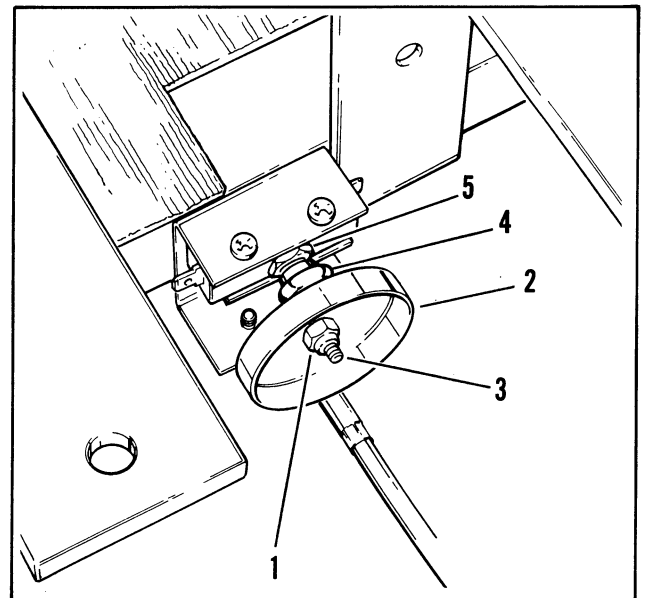
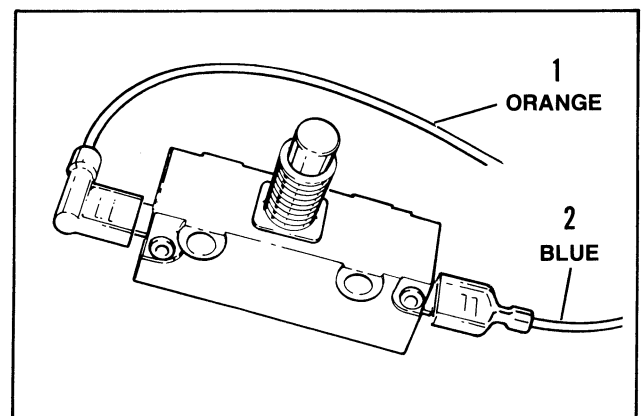

Figure 90 – Accelerator Micro-Switch
Figure 91 – Micro-Switch
40. ACCELERATOR MICRO-SWITCH (Figure 90)
- Remove wire connection to switch. See Figure 91. Disconnect single orange wire (1) and single blue wire (2).
- Reconnect single orange wire (1), single blue wire (2), Figure 91, and mount switch using speed nut (5), Figure 90. Remount using two screws and speed nut plate.
- Install switch plunger boot (4) to switch, spin on cup (2) and locknut (1), Figure 90.